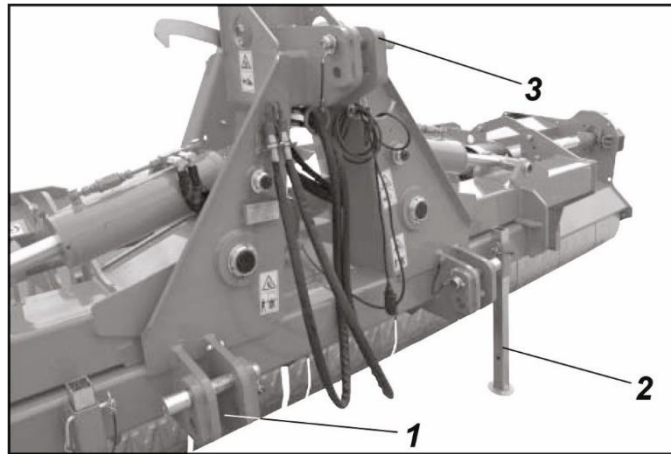

Figure 5.1
- 5.1.1. Back the tractor up so that its rear lift arms are offered up to the machine's couplers, see Figure 5.1 (1 and 2).
- 5.1.4. Connect the machine's adjustable top link, see Figure 5.1 (3), to the tractor, lift the machine until the machine and tractor power take-offs are at the same height and adjust the adjustable top link so that the machine sits horizontally; see Figure 1.2.